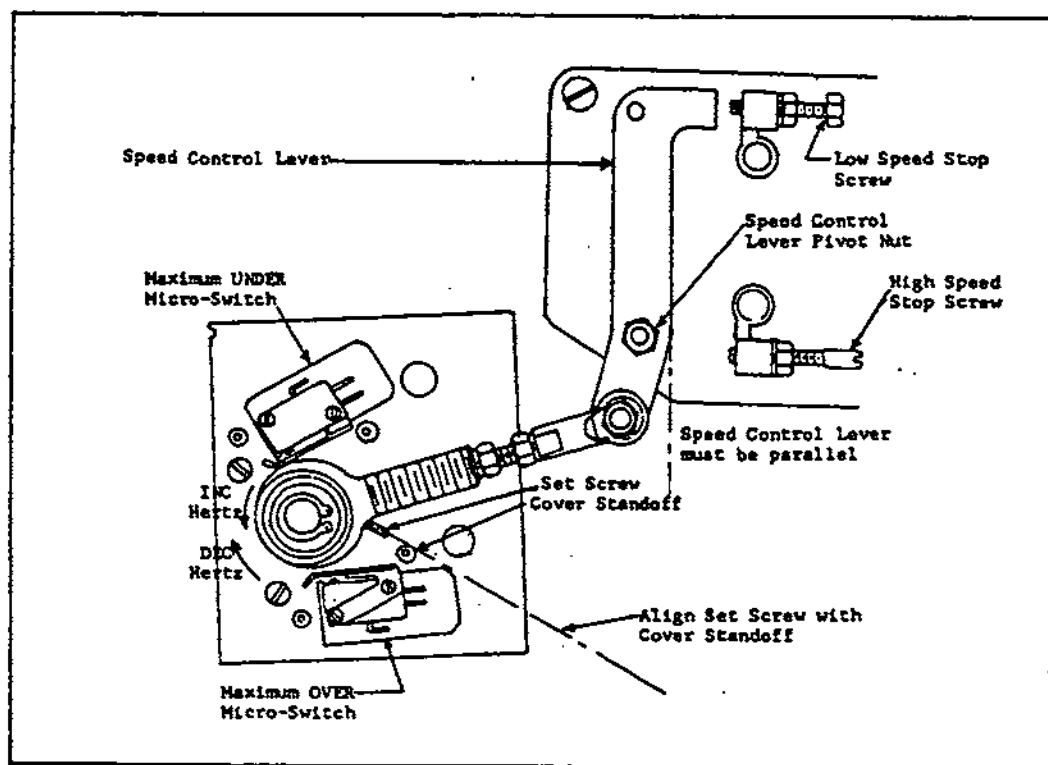

Figure 4.5-E. Initial Setup of Throttle Positioner Assembly
7. See Figure 4.5-F. Turn the RPM COARSE adjustment on the Printed Circuit Board until the SET SCREW (Figure 4.5-E) is aligned with the COVER STANDOFF as shown.
8. With the SPEED CONTROL LEVER parallel and positioned to provide an AC frequency of 60-61 Hertz, and with the SET SCREW positioned as outlined in Step (7), adjust the length of the THROTTLE POSITIONER LINK so that the LINK-TO-SPEED CONTROL LEVER CAPSCREW can be installed easily through both the LINK and the SPEED CONTROL LEVER.